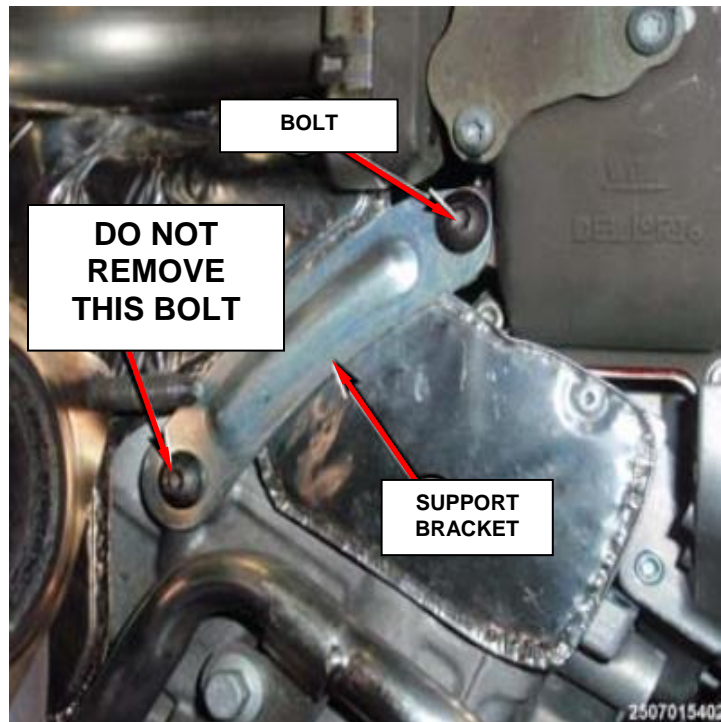

Figure 36 - Bracket Mount Bolt
17. Remove the top bolt at the rear of the EGR cooler bypass valve support bracket (Figure 36).
24. Install the **NEW** bolt at the rear EGR cooler bypass valve support bracket and tighten to 25 N·m (18 ft. lbs.) (Figure 36).